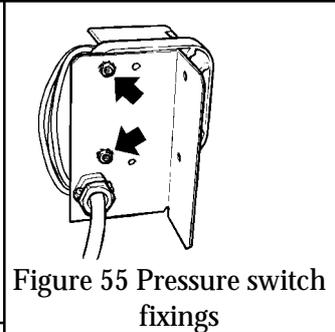

Figure 55 Pressure switch fixings
15.11.2 Detach the pressure switch from the control bracket by removing two screws, nuts & washers (see figure 55).